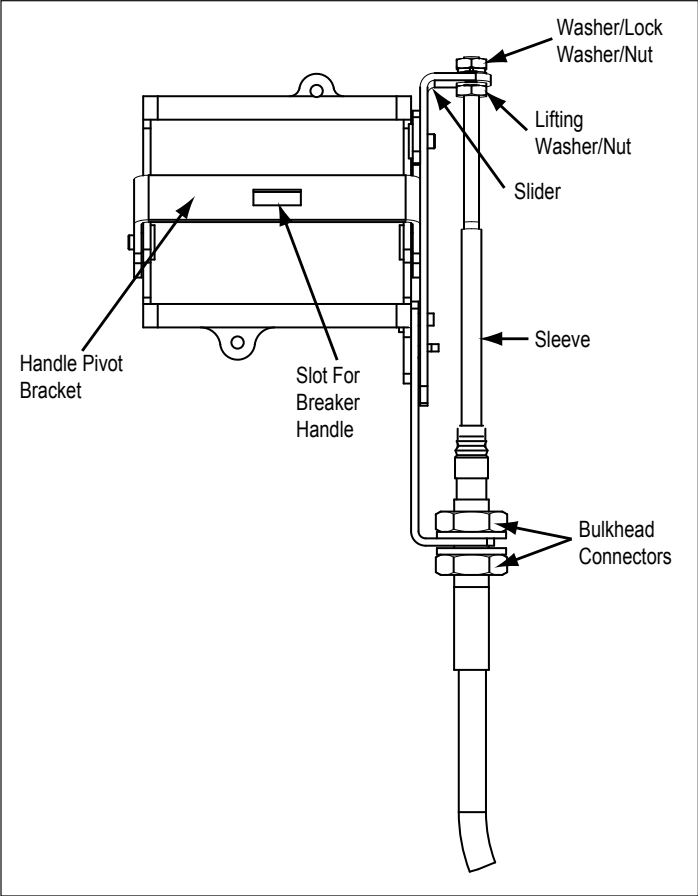

Figure 5. E-Frame Actuator Mechanism.
The High Performance Flex Shaft handle mechanism provides a means of externally operating the circuit breaker and can be applied to enclosures of varying heights and depths. The handle can be used with NEMA 1, 3R, 12, and 4/4X enclosure applications, depending on the accessory components selected. An operating handle, flexible shaft, and mechanism are required for standard application. Nine lengths of shafts are available for use with the wide range of depths of various enclosures (3 through 6 ft [0.91 through 1.83 m]). When selecting the length of the Flexible Shaft, ensure Minimum bending radius of 4 in. (101.60 mm) is maintained to operate properly. The standard method of shipment includes the mechanism preset at the factory. If minor field adjustments are required, see Figure 5. For this publication, the term circuit breaker shall also include the molded case switch and motor circuit protector (HMCP).
In the event a customer must disassemble the pre-assembled Flex Shaft handle mechanism, the procedure listed below must be followed before continuing with the "Installation" instructions (see Figure 5).
8. Check the operation of mechanism for "ON", "OFF", and "Reset". Check the reset position of the actuator mechanism, that the lifting nut and sleeve of shaft do not come in contact with each other (see Figure 5). If they do, move the bulkhead connectors accordingly. If the mechanism functions incorrectly, repeat the procedure or go to Adjustment Checklist.
Loosen the lifting washer/nut while tightening the washer/lock washer/nut. Two or three turns should be sufficient (see Figure 5).
Note: Check the reset position of the actuator mechanism, that the lifting nut and sleeve of shaft do not come into contact with each other (see Figure 5). If they do, move the bulkhead connectors accordingly.
Loosen the washer/lock washer/nut on the end of the shaft while tightening the lifting washer/nut until the breaker turns "ON" with positive action. Tighten both nuts and recheck for "ON", "OFF", and "Reset" positions (see Figure 5).
Note: After adjustment, be certain to have a minimum of one thread past the washer/lock washer/nut assembly (see Figure 5).